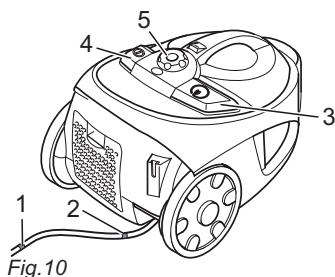

Fig. 10
2. Remove the cable, by holding the plug, until the yellow mark is reached (Fig. 10/1).
If the red mark (Fig. 10/2) is visible, use the cable retract button (Fig. 10/3) to draw in the cable again up to the yellow mark. Otherwise the cable can break off. There is a risk of electric shock!
3. Switch on the cylinder vacuum cleaner using the on/off switch (Fig. 10/4).
5. Turn on the suction power using the suction controller (Fig. 10/5).